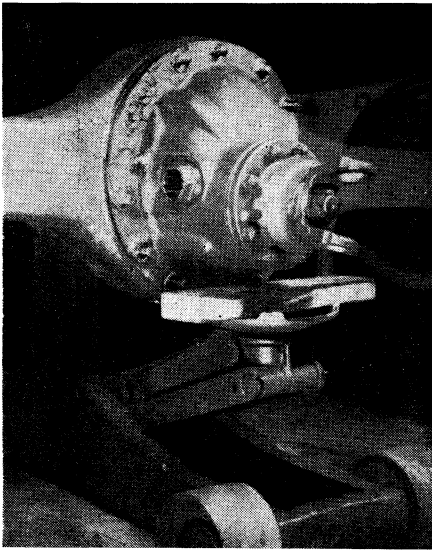

Fig. 70 Using roller jack to support carrier while being removed from housing
7. Remove top nuts and washers and work carrier free, using puller screws in holes provided. A small pinch bar may be used to straighten the carrier in the housing bore. However, the end must be rounded to prevent indenting the carrier flange. A roller jack may be used to facilitate removal of the carrier, Fig. 70.